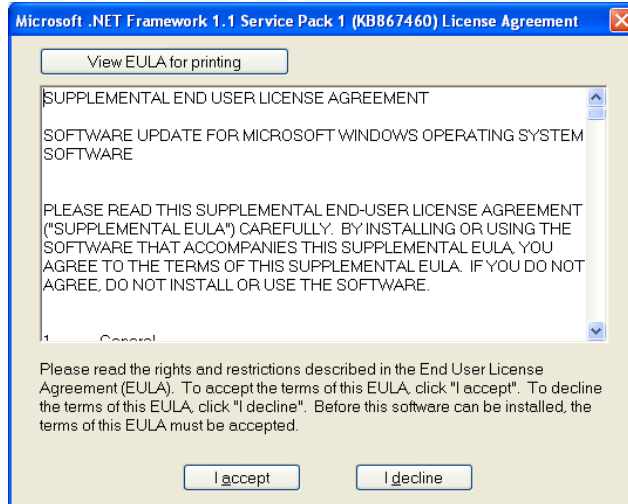

Figure 25 - .NET Framework v1.1 SP1 Setup License Agreement Screen
4. Press the **OK** button. The License Agreement screen will appear (see Figure 25).